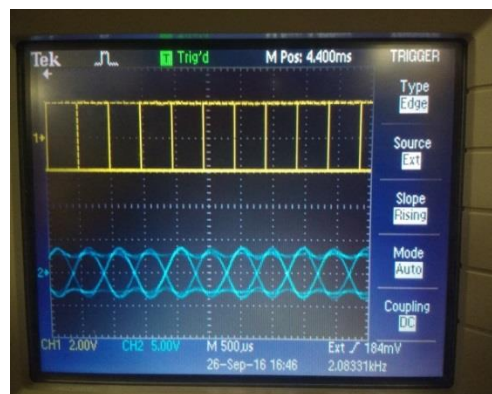

Figure 23: Distorted and Non distorted eye patterns when f_c is at 2 kHz with RUN feature
5. In Channel 1, you will see eye-pattern corresponding to a non-distorted digital data. In Channel 2, (Figure 23) you will see eye-pattern corresponding to the line coded waveform, after passing through the channel, represented by a low pass filter with cut off frequency as R_b KHz. *It is easy to understand that one cannot simply sample the waveform at any instant during the bit period and declare the presence of bit 1 or 0. In this case, the eye is not completely open.*